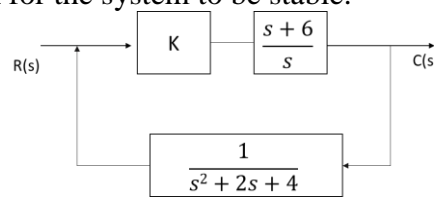

Figure 6
- 3A. A model for an airplane's pitch loop is shown in Figure 6 of gain, K , that will keep the system stable. Design the value of K for the system to be stable.